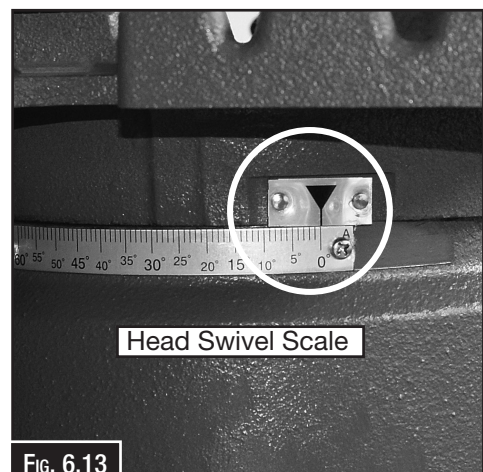

FIG. 6.13
NOTE: The scale is only to be used for approximate guide. For accurate setting a protractor should be used. (Fig. 6.13)
3. Raise the saw bow, then move the head and set the scale to "0". (Fig. 6.13) then lower the saw bow and lock in place.